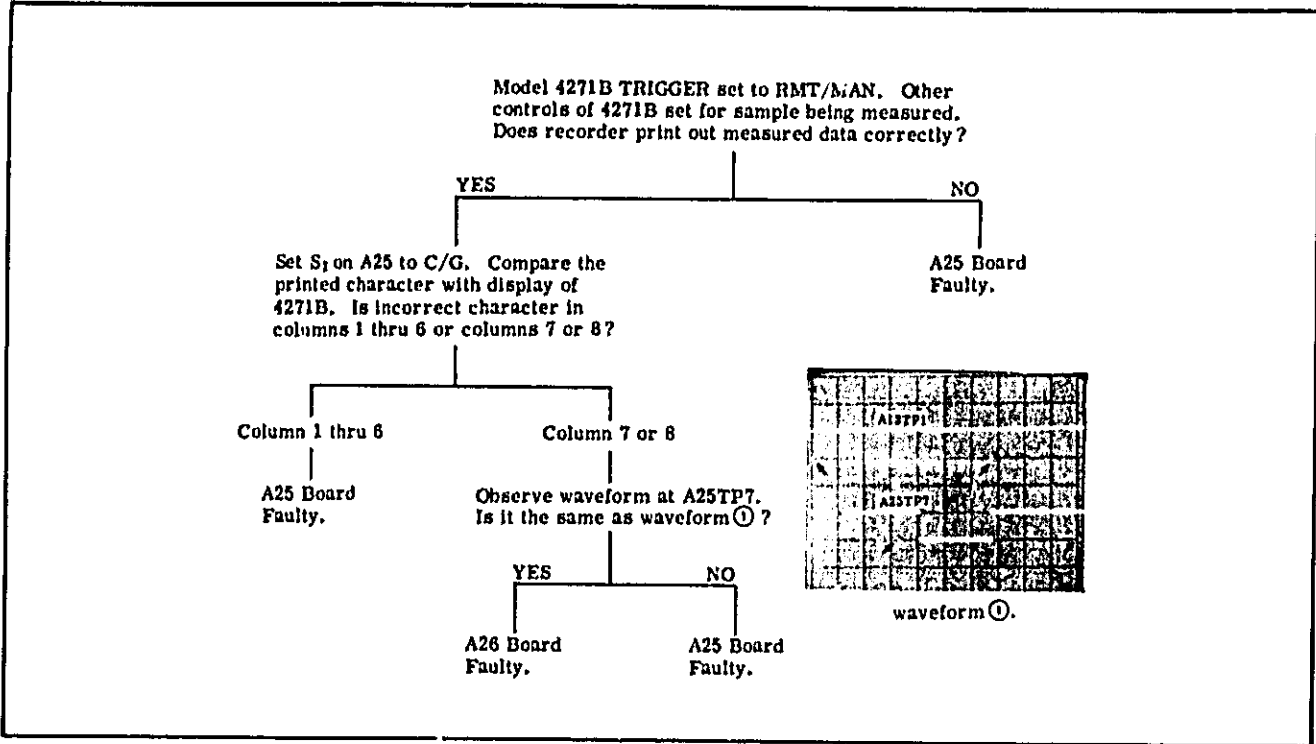

Figure 8-28. Troubleshooting Tree (with Digital Recorder).
- a. When a Digital Recorder is connected to 4271B, troubleshoot in accord with Figure 8-28.